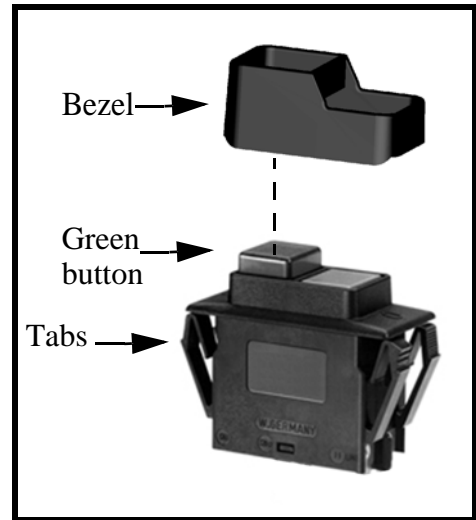

Fig. 37
- 5) Fix the bezel on top of the new switch with Loctite instant adhesive. The higher side of the bezel must be placed over the green button (see Fig. 37).